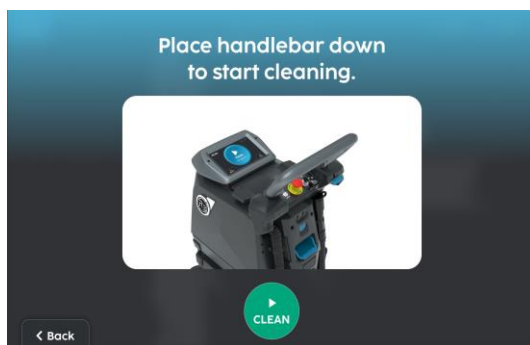

FIGURE 5-8
3. Place the handle bar down to start cleaning (Fig5-8)